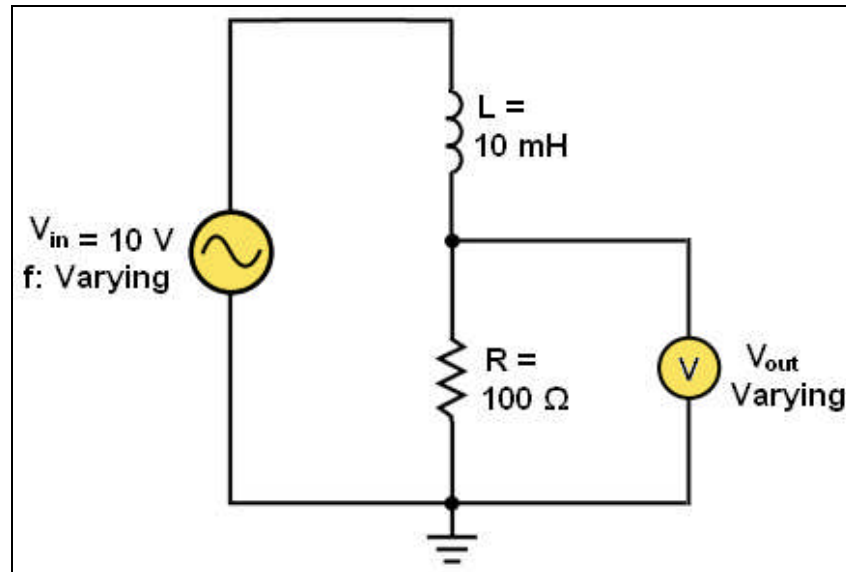

Fig. 2.3-15 Example of Low-Pass Filter Action
Fig. 2.3-15 shows a specific series of measurements for RL low-pass filter in which the frequency starts at zero (DC) and is increased in increments up to 20 kHz. At each value of frequency the output voltage is measured (Table 2.3-3).